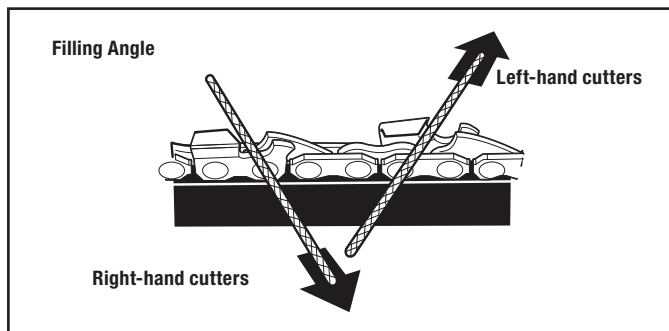

Figure 33
- 2c. File toward the front corner of the cutter (Fig. 33). Lift the file away from the cutter at the end of the forward stroke. Only file on the forward stroke.
- 2e. File all the left-hand cutters in one direction (Fig. 33). Then move to the other side of the saw chain and file all of the right-hand cutters in the opposite direction (Fig. 33).